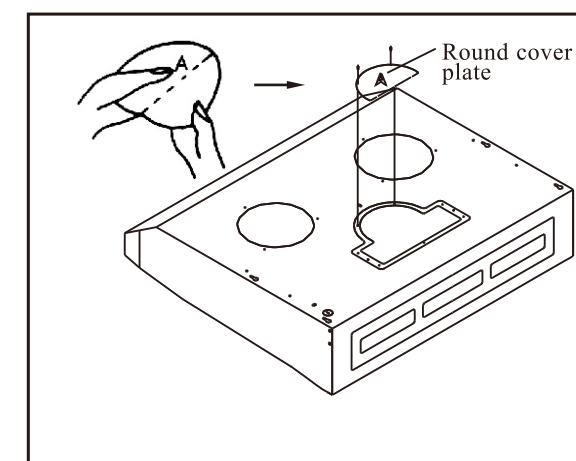

Fig.3 Fit the round cover plate
- (b)Cut the round cover plate into 2 halves. Then screw Part A with 5/16"L X5/32" Dia. Screws on both sides..(Fig3)